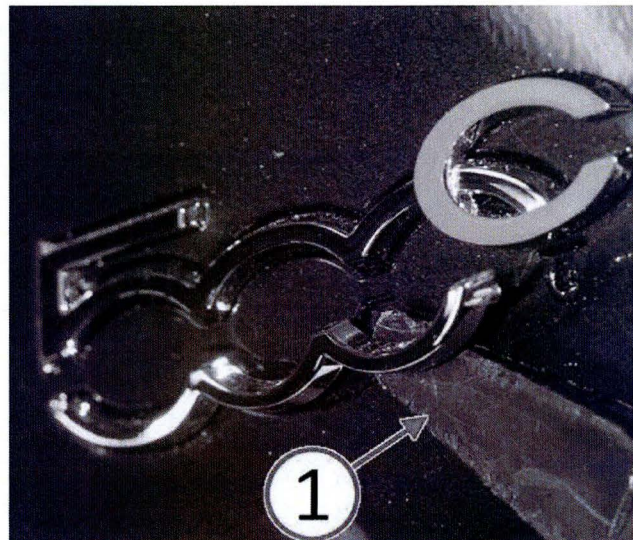

Fig. 3 Remove Name Plate From Bezel
3. Being very careful to not scratch the instrument panel bezel, use a trim stick or equivalent (1) to remove the "500" nameplate from the instrument panel bezel (Fig. 3).